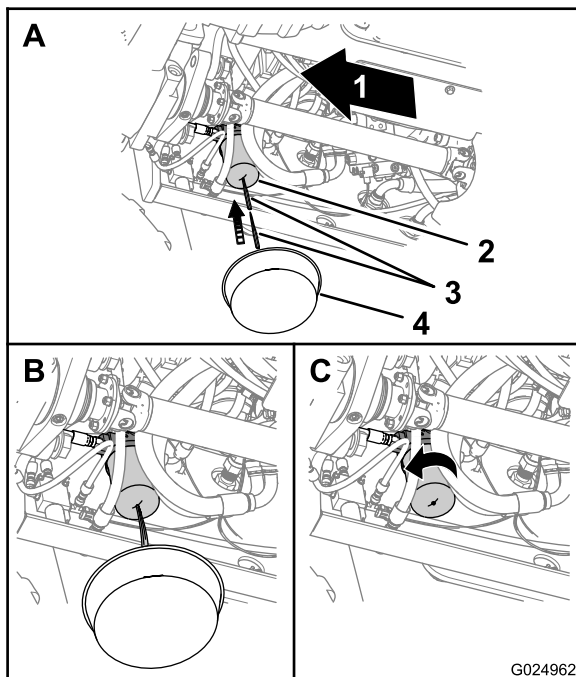

Figure 102
1. Place a drain pan under the transmission-oil filter (Figure 102).
2. Puncture the bottom of the transmission filter, and allow the residual hydraulic fluid to drain into the drain pan (Figure 102).
3. Remove the transmission filter with a filter wrench and discard the filter (Figure 102).
6. Install the new filter by hand and tight the filter 1/2 to 3/4 turn after it makes contact with the filter head (Figure 102).